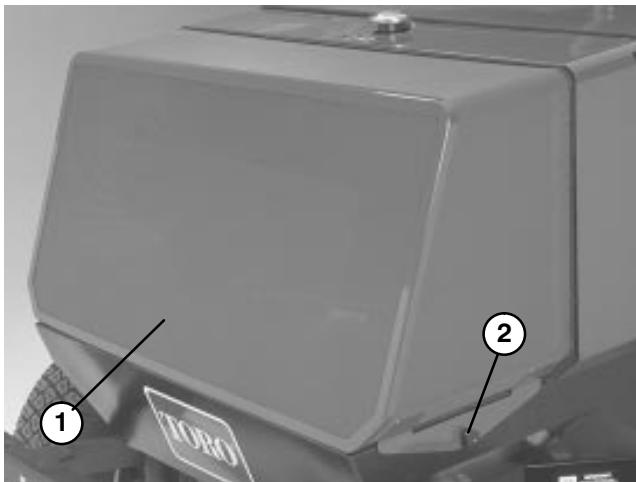

Figure 27
1. Remove knobs securing rear screen to frame (Fig. 27). Remove screen.